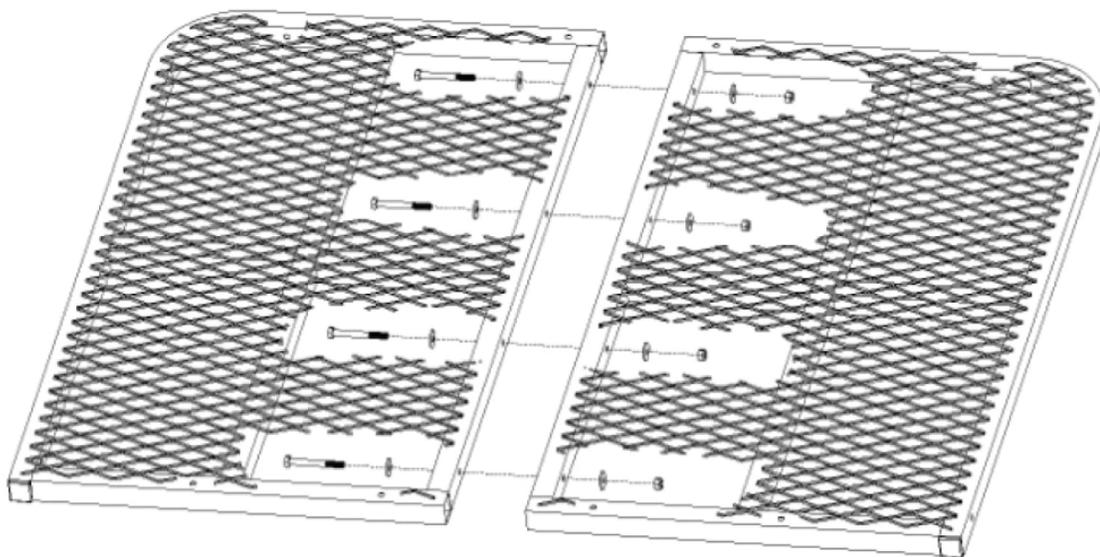

Figure 16
STEP 1: Place two (2) sections of platform side-by-side and bolt together using four (4) $\frac{1}{4}$ " x $2\frac{3}{4}$ " bolts, and eight (8) washers as shown in Figure 16. Place one (1) washer under the head of each bolt and one (1) washer under each nut. Tighten nuts to 50 inch pounds.